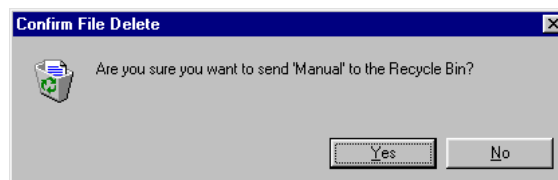

Figure 5.12
Step 3 Click on “**Delete**” and you will see figure 5.12.
Step 4 Click on “Delete” and you will see figure 5.12.